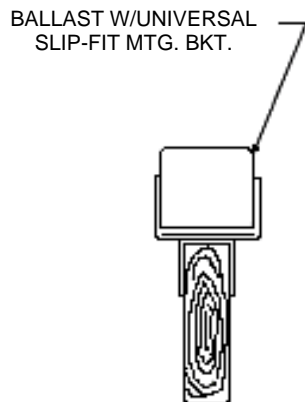
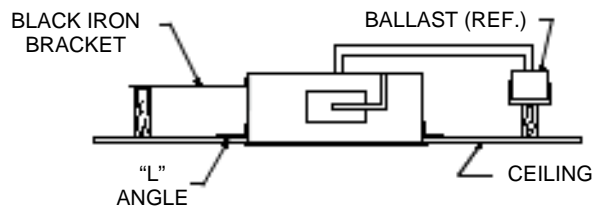

FIG. 1
FIG. 2
3. Place ballast with universal slip-fit mounting brackets on nearest ceiling joist, wood, or iron. Ballast should be mounted 12" from fixture (see Fig. 1)
4. Remove fixture top by removing (1) ¼ turn fastener and pull out by holding onto reflector.
6. Install (2) "L" angles (containing screws) to the outside of the fixture housing through "crossed" slots. Adjust angle brackets to allow for ceiling material thickness (See Fig. 2 & 3)
7. Working through top of fixture, install (2) black iron brackets into oval slots at the top sides of the fixture, spanning the closest ceiling joist on either side. Make necessary height adjustments as fixture flange must be flush with ceiling (See Fig. 2 & 3)